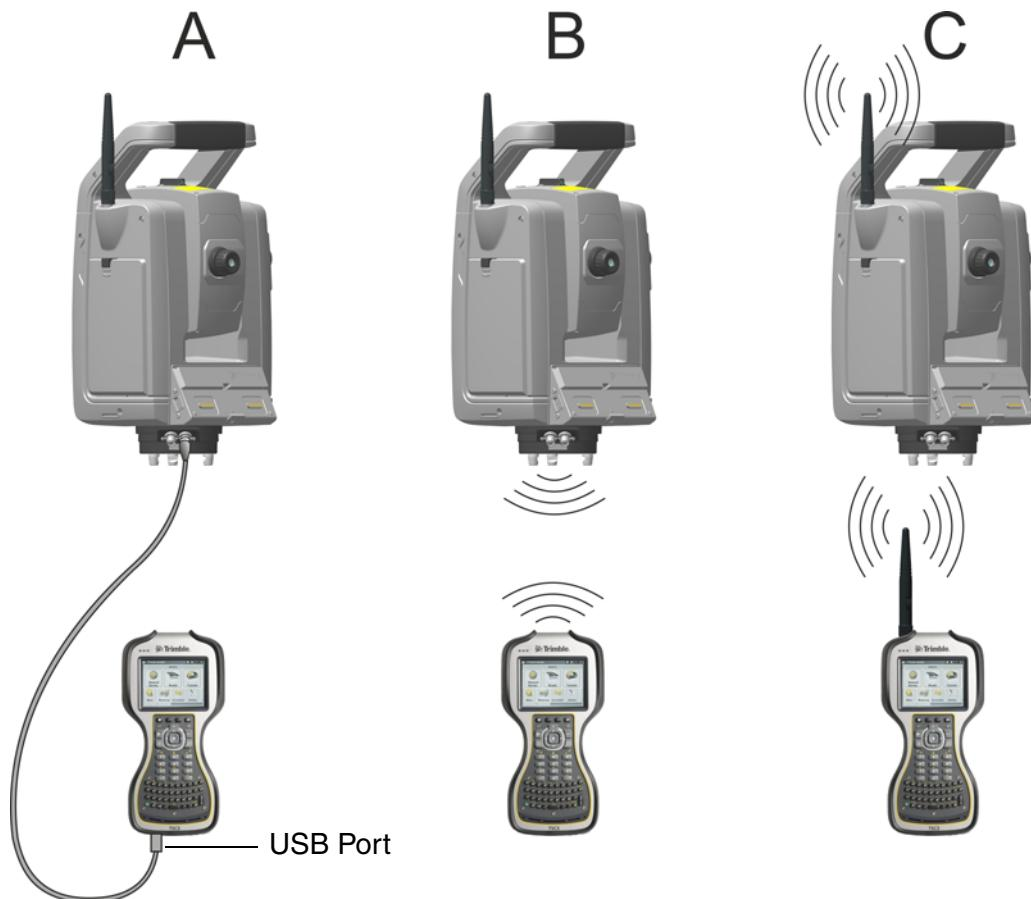

Figure 4.16 Connecting the TSC3 to the instrument
- In the TSC3 field software when the TSC3 is connected to the instrument with a cable, see Figure 4.16